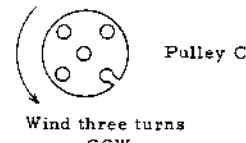

Fig. 4
- Attach the knotted end of the thread and allow the pulley to return one turn, winding the thread around the pulley. See figures 4 and 5.